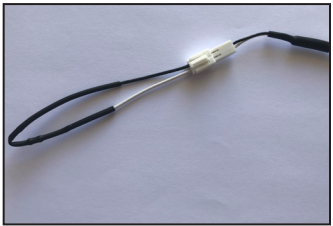

Figure 33 - Installed Resistor
- 3. Add a resistor to the cascade communication cable of the last unit. See Figure 33.